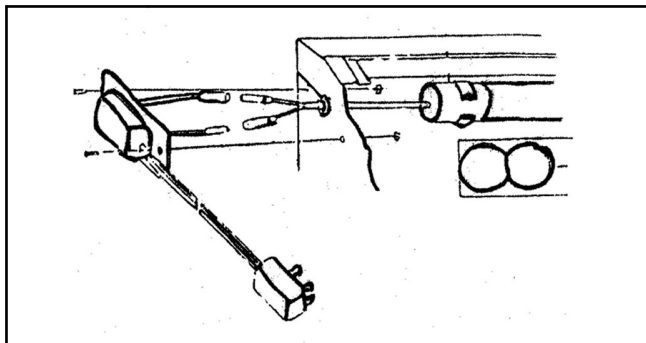

Figure 2. Light assembly.
2. Connect the electrical wires and install the electrical box with the screws (Figure 2).